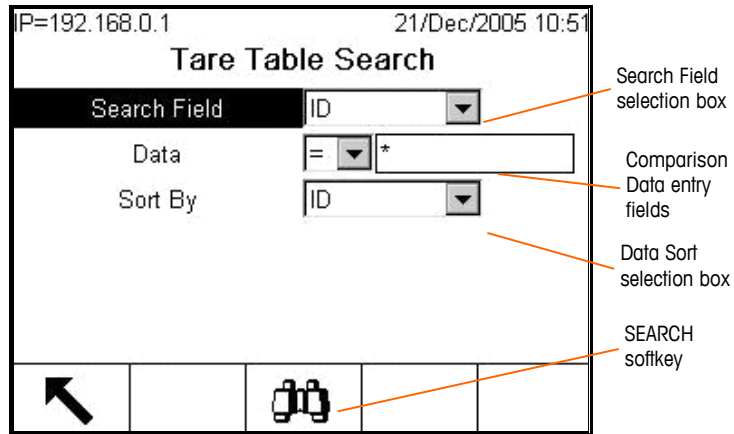

Figure 2-39: Tare Table Search Screen
- To select a sub-set of records from the table, press the TABLE SEARCH soffkey . The Search Screen for the selected report type displays (see Figure 2-39).